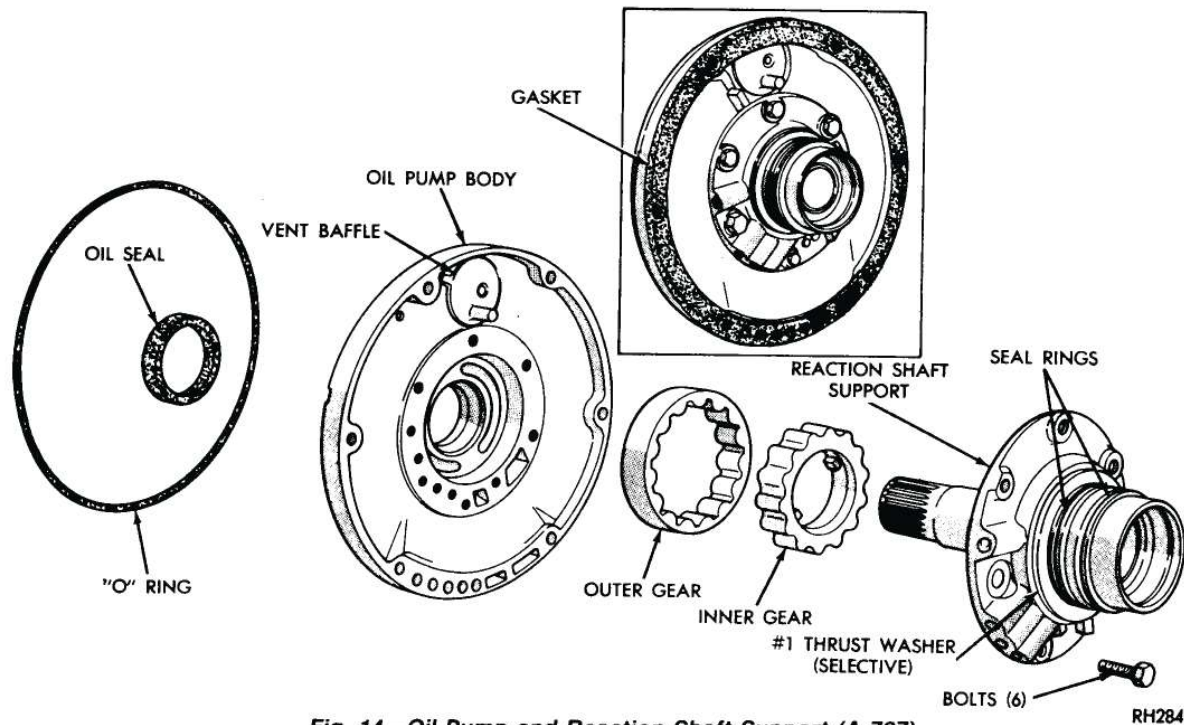

Fig. 14—Oil Pump and Reaction Shaft Support (A-727)
Figure 14 shows the oil pump and reaction shaft support disassembled.
Inspect interlocking seal rings (Fig. 14) on reaction shaft support for wear or broken locks, make sure they turn freely in the grooves. Inspect machined surfaces on pump body and reaction shaft support for nicks and burrs. Inspect pump body and reaction shaft support bushings for wear or scores. Inspect pump gears for scoring or pitting. With gears cleaned and installed in pump body, place a straightedge across face of gears and pump body. Use a feeler gauge to measure clearance between straightedge and face of gears. Clearance limits are from .001 to .0025 inch. Also, measure gear tip clearance between inner and outer teeth. Clearance limits are from .005 to .010 inch. Clearance between outer gear and its bore in oil pump body should be .004 to .008 inch.
(1) Assemble pump gears and "O" ring in the pump housing (Fig. 14).
(2) Install reaction shaft support. Install retaining bolts and tighten to 175 in. lbs. (20 N-m).